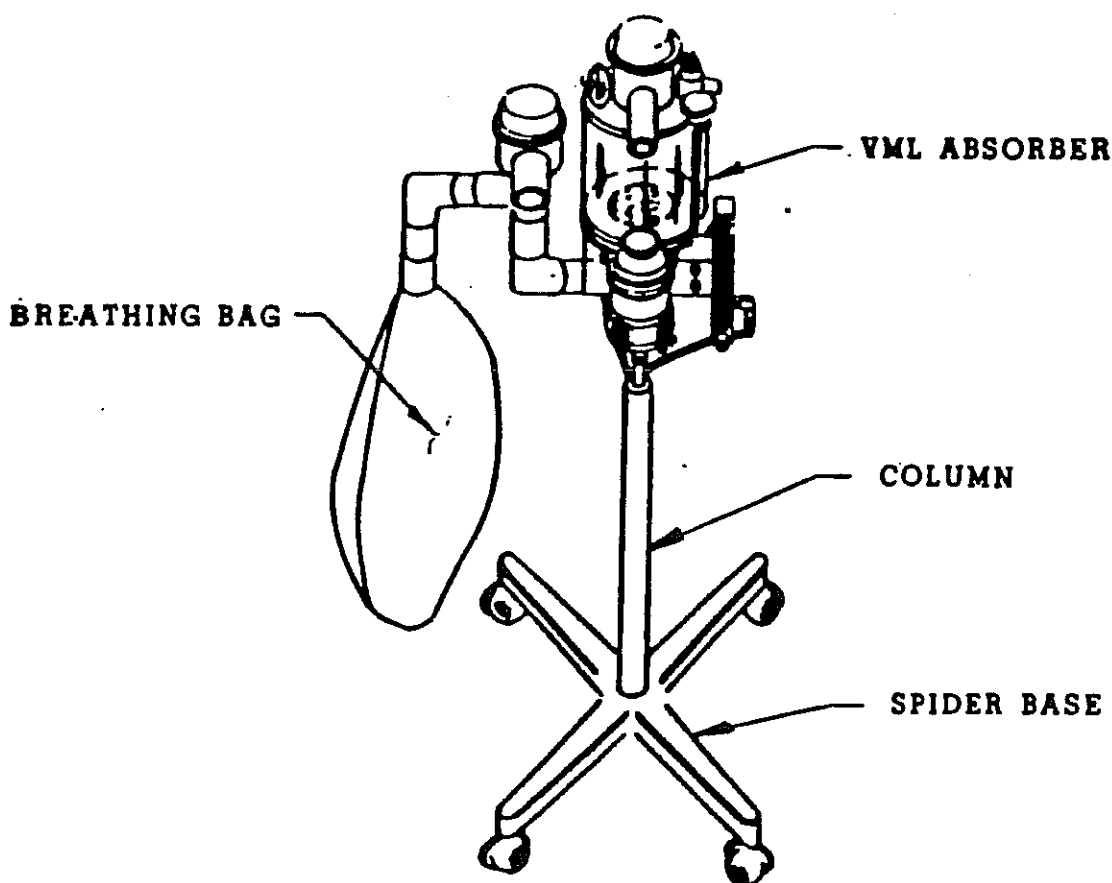

Figure 2 - VML Basic Assembly
10. Connect the breathing bag to the breathing bag mount (refer to Figures 2, 11).